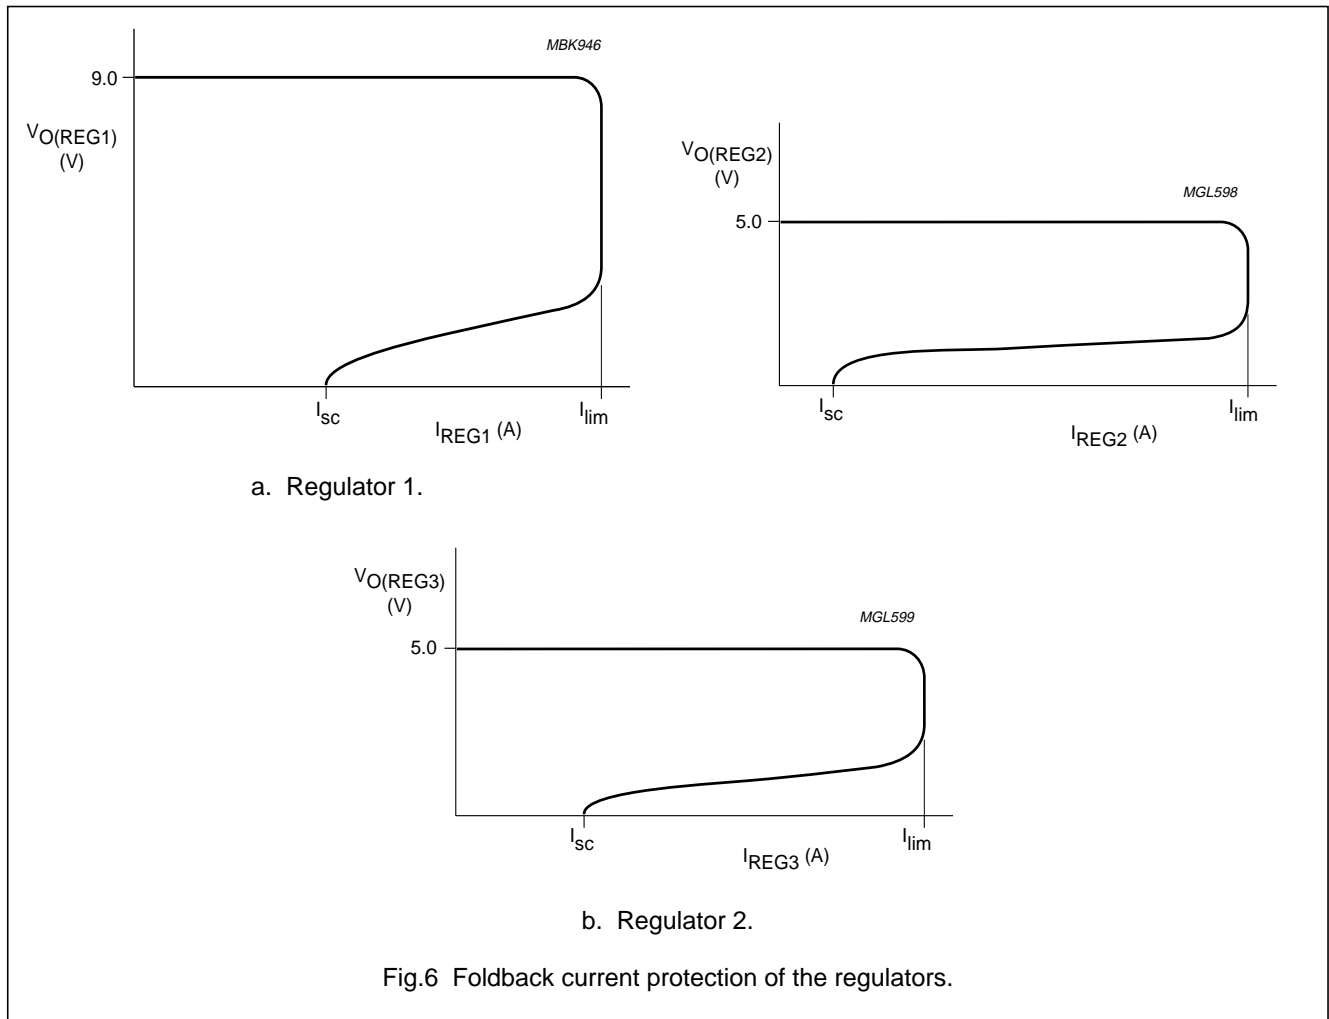

Fig.6 Foldback current protection of the regulators.
- At current limit, I_{lim} is held constant (see Fig.6 for the behaviour of I_{lim}).
- The foldback current protection limits the dissipated power at short-circuit (see Fig.6).